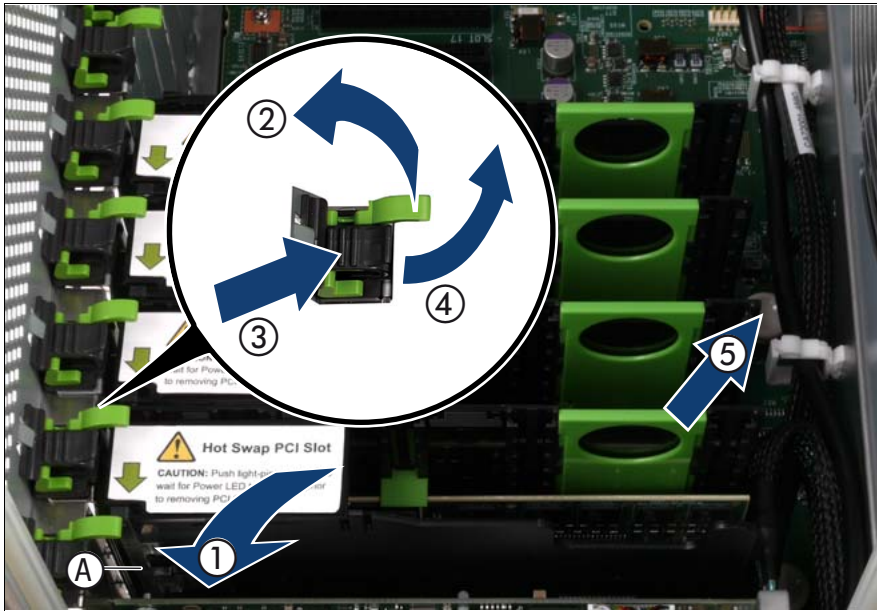

Figure 70: Pulling the expansion card out of the slot
- ▶ Deactivate the expansion card using either the related PCI hot-plug software or by pressing the light-pipe switch, see A in Figure 70.